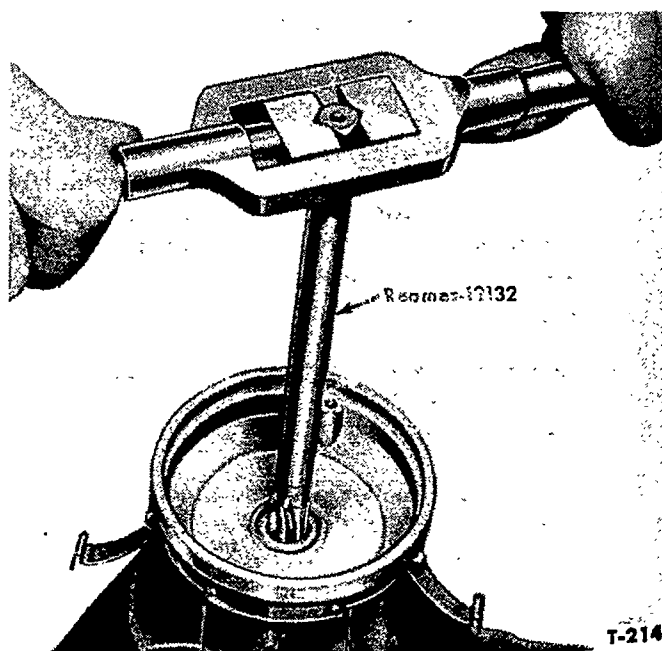

Figure 8—Reaming Distributor Shaft Bushing
2. Ream the bushing to size with distributor Shaft Bushing Reamer 12132, as shown in Figure 8.